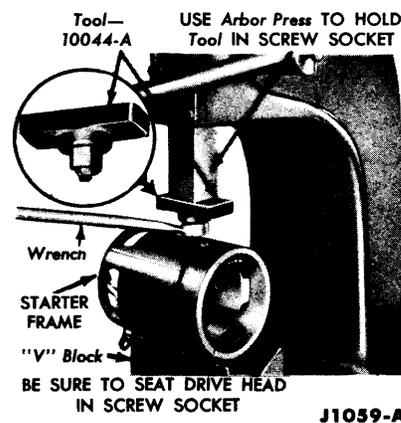

FIG. 12—Pole Shoe Screw Removal
5. Unscrew the 3 field-pole-shoe screws as shown in Fig. 12. The arbor press prevents the wrench from slipping out of the screw.